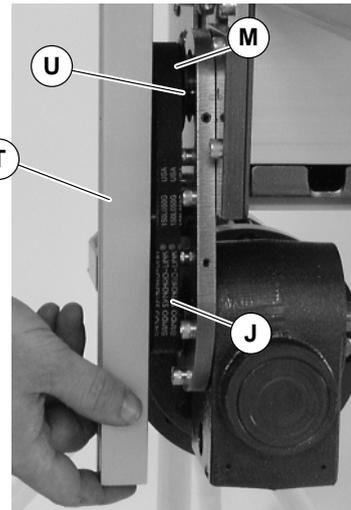

Figure 9
- Wrap timing belt (P) around driven pulley (M) and drive pulley (J). Install driven pulley (M) onto conveyor shaft.
- Using a straight edge (T of Figure 9), align driven pulley (M) with drive pulley (J). Tighten driven pulley set screws (U).